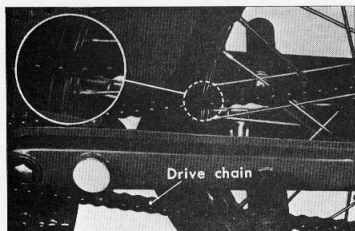

Figure 4-44. Disconnecting chain
- (1) Remove the change pedal.
- (2) Remove the left crankcase cover.
- (3) Remove the chain case lower half.
- (4) Rotate the rear wheel so that the drive chain joint is positioned at the specified location shown in Fig. 4.44 and then disconnect the drive chain by removing the joint clip. (Fig. 4-44)